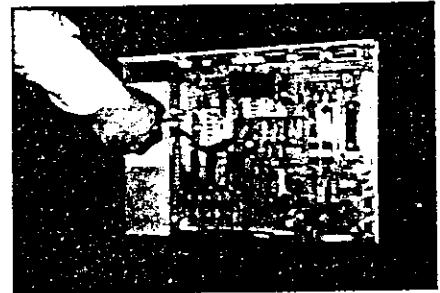

Fig. 2-12. PCB Screw Removal
**2.6.2** Remove the 4 PCB screws at locations A1, A6, T1, T4. Note that the power supply screws are larger than the other two. See Fig. 2-12.